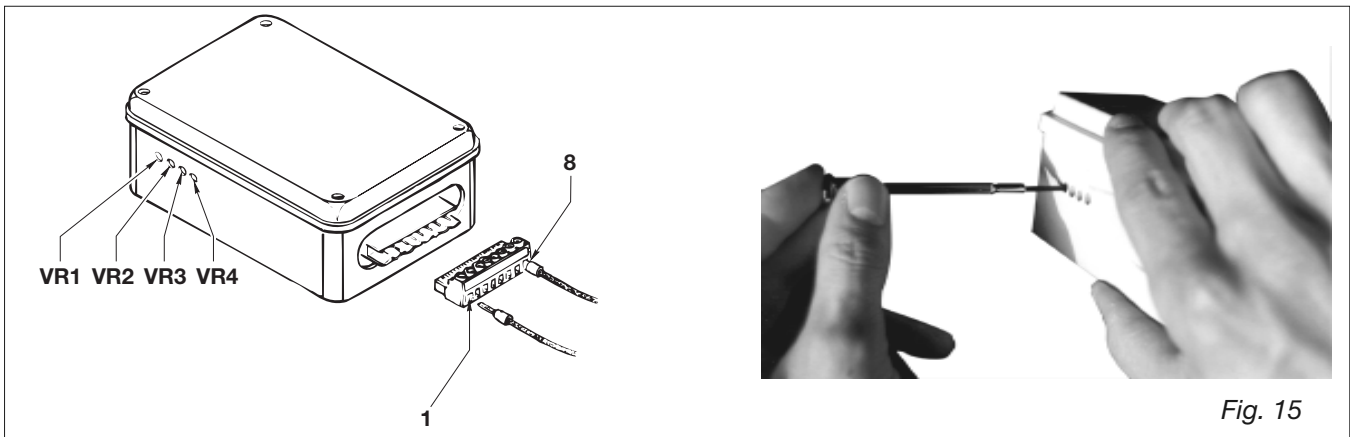

Fig. 15
- 3 - Rotate trimmer **VR1** (see Fig.15) until LED2 turns off (rotating the trimmer clockwise turns off more LEDs, and viceversa); after LED2 turns off, rotate the trimmer clockwise two and half turns more.